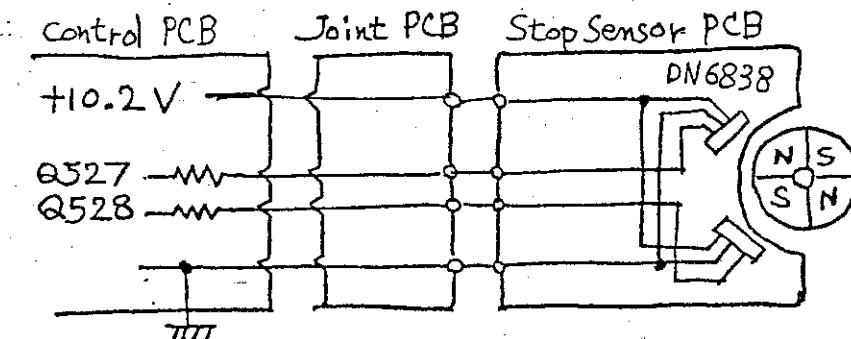
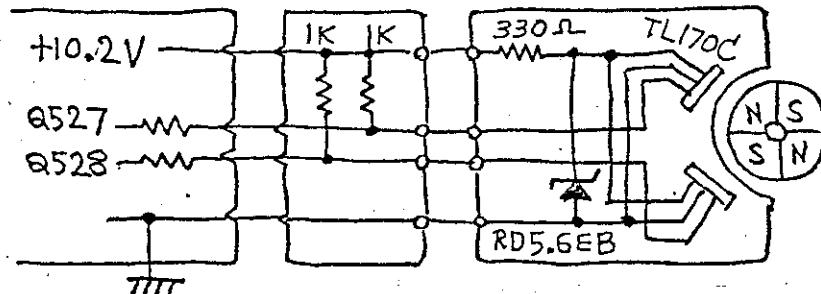
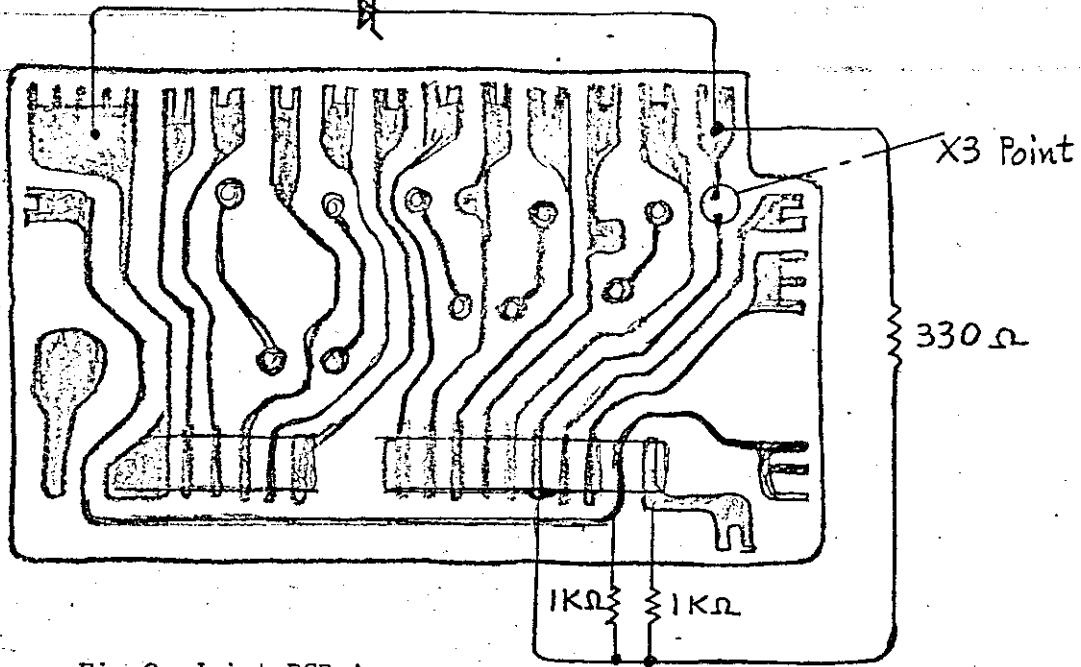
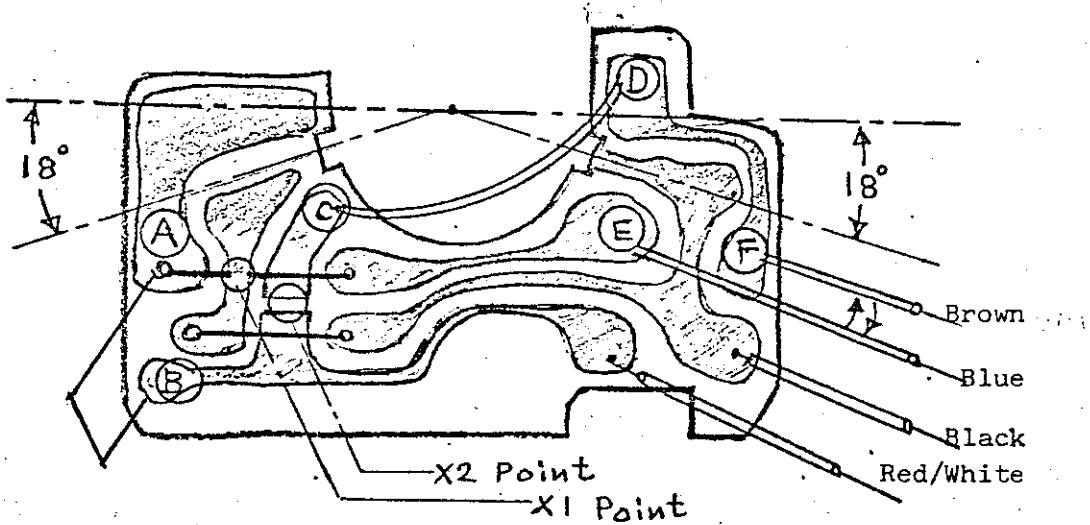

Fig 1
Fig 2
Fig 3 Joint PCB Assy
Fig 4
To improve the reliability of A-770 Cassette auto stop function, the circuits on PCB Assy Stop Sensor and Joint PCB Assy have been changed on the products serial numbered 21531 and after. In Fig 1 and Fig 2 are the diagrams of these former and new circuits. The former circuit can be changed into new circuit by making several modifications on the two PCB Assys as shown in Fig 3 and Fig 4.
- 1.6 Remove old Hole IC DN6838 (Parts No 52287001) from PCB, and mount new Hole IC TL170C (Parts No 52287001). On mounting this IC, care should be taken to keep the 18° angle as shown in Fig 4, as well as to face the flat side of IC against magnet rotor.
- 2.2 Connect three resistors and one zener diode RD5.6EB on the foil side of PCB as shown in Fig 3.